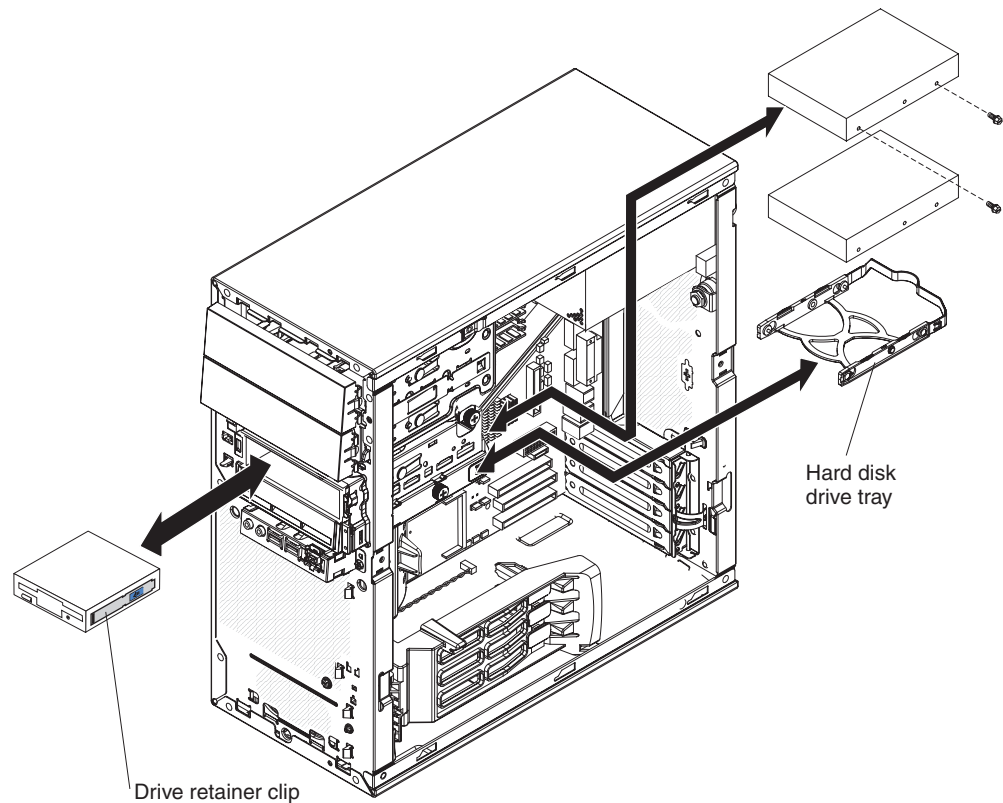

Figure 35. Installing a drive in bay 3 or 4
4. To insert the drive, use one of the following procedures (see Figure 35):